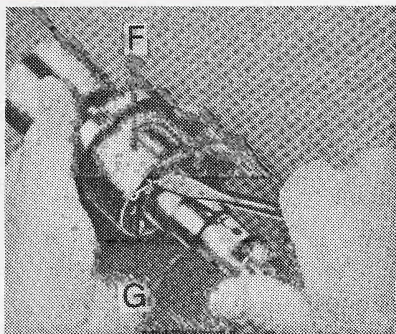

Fig. 10-4.
4. Refer to Fig. 10-4. The lock housing (F) is attached to the lock by a small cotter pin (G) or by twisted lugs. Remove the cotter pin or straighten out the lugs. Lift the housing above the lugs and, with a slight turn, rotate the housing $\frac{1}{4}$ in. and remove it.